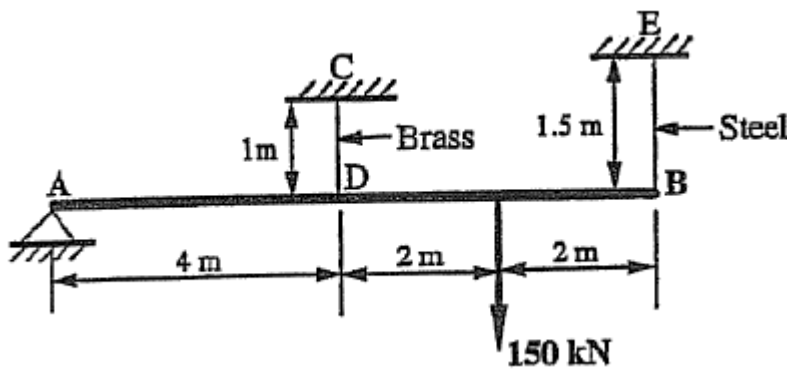

Figure 1
- a) Rigid bar AB shown in **Figure 1** is pinned at A and is initially horizontal, supported by two vertical circular rods CD and EB. The brass rod CD has a diameter of 25mm while the diameter of the steel rod, EB, is 20mm.